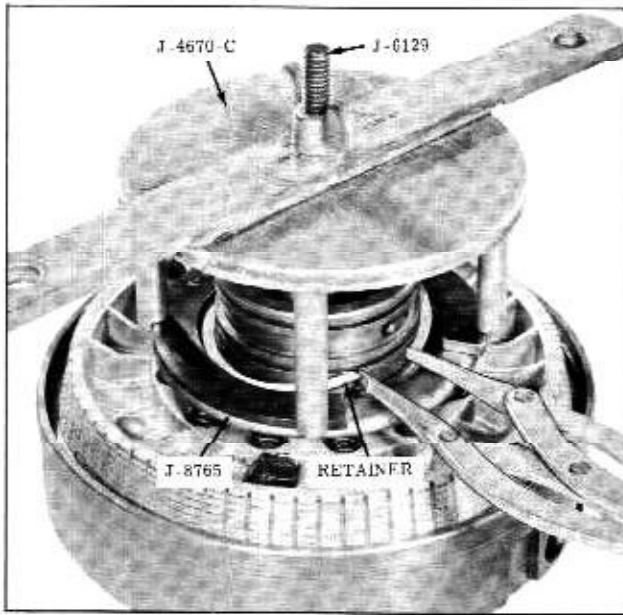

Fig. 3-68 Removing Reverse Release Spring Retainer
remove reverse release spring retainer snap ring. (Fig. 3-68)
11. Using Tools J-8765, J-6129 and J-4670-C, compress release springs. (Fig. 3-68)